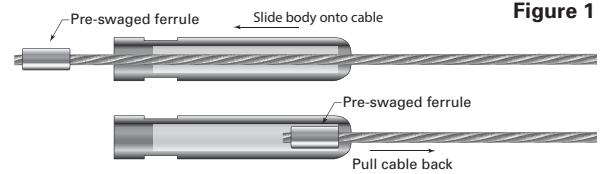

Figure 1
3. Slide the body of the Adjust-a-Body with Hanger Bolt Tensioner onto the bare end of the cable, threaded end first, and pull it the length of the cable until it is stopped by the ferrule already swaged onto the cable. (Figure 1)